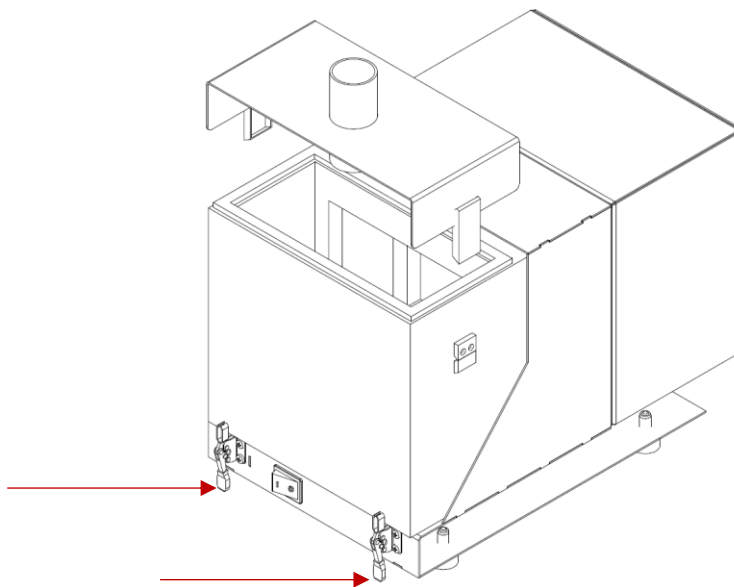

Fig. 110 Clamps securing the cartridge to the filter base
7. Open the two clamps securing the cartridge to the filter base (Fig. 110).